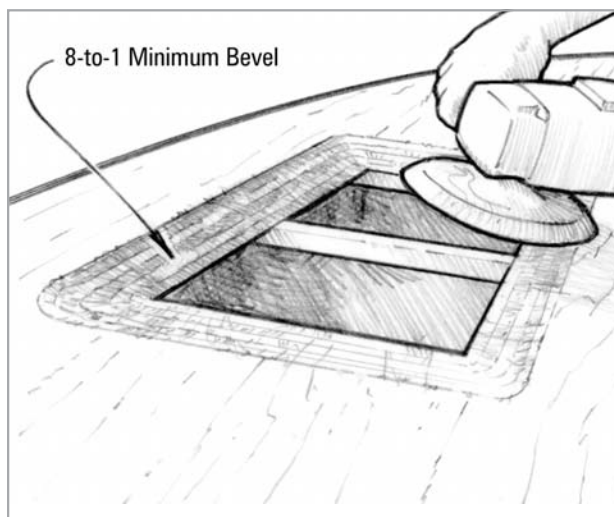

Figure 5-12 Cut out the damaged area and grind a minimum 8-to-1 bevel on all sides of the opening.
- a. Grind a scarf on the edges with a disc sander (*Figure 5-12*). Grind a minimum 8-to-1 bevel back from the edges of the opening. (If the panel plywood is $\frac{1}{2}$ " thick, the bevel should extend at least 4" from the edge of the hole on each side.)